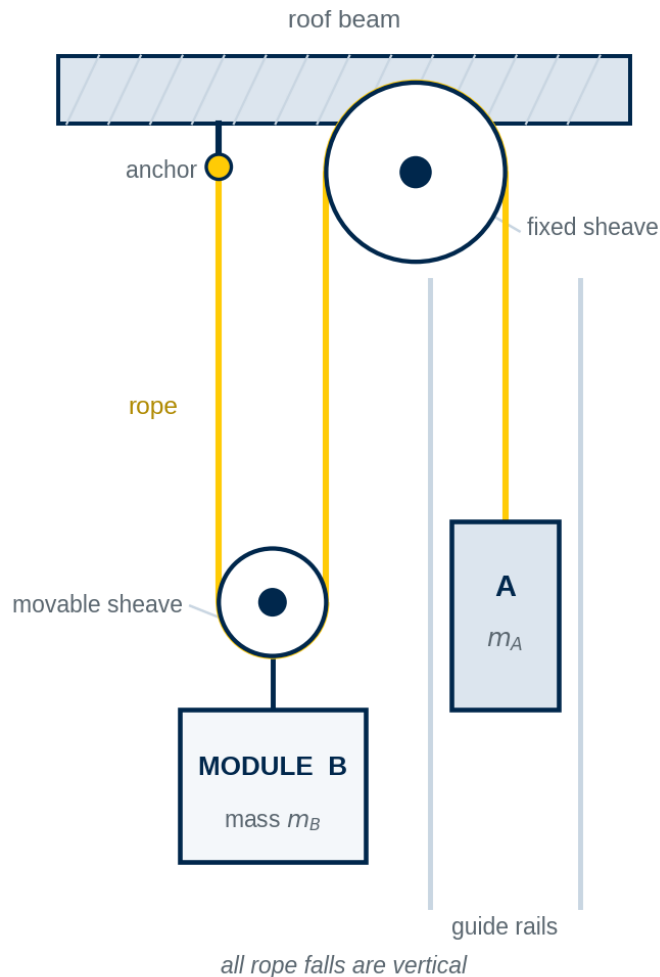

Figure 3 · The two-to-one reeved service hoist. Rope path and geometry only — no datum, no coordinates and no forces are supplied.
2. List every rope segment in Figure 3. Mark which segments change length as the module rises and which do not, and state how many change.